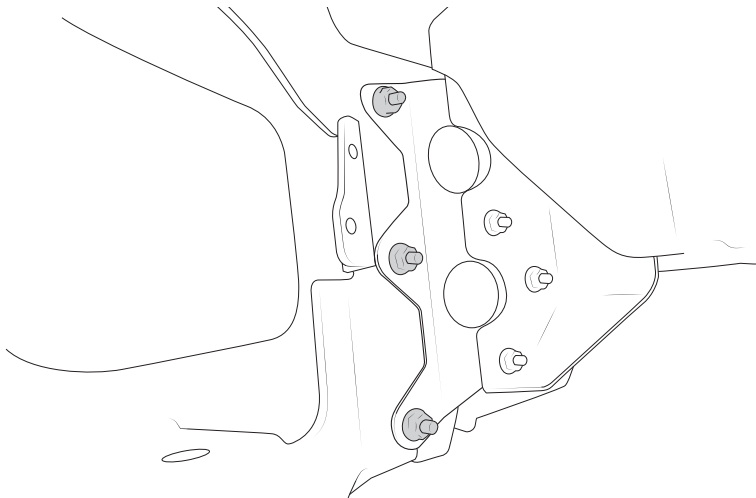

Figure 16
3. Insert three (3) M12 x 35 carriage bolts into the bumper corner pointed toward rear of vehicle, through the holes in the outer frame bracket (fig. 16). Secure with M12 nuts and hand tighten.